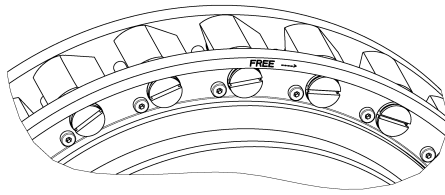

Fig. 4: Clamp bodies intervening
- Secure (see Fig. 4 and 5) the clamp bodies in lift-off position (against the spring force) using an O-ring / cable connector as an assembly aid.
- Mount the cage (Item 8) on the inner race (2) and secure it axially using retaining ring (9).